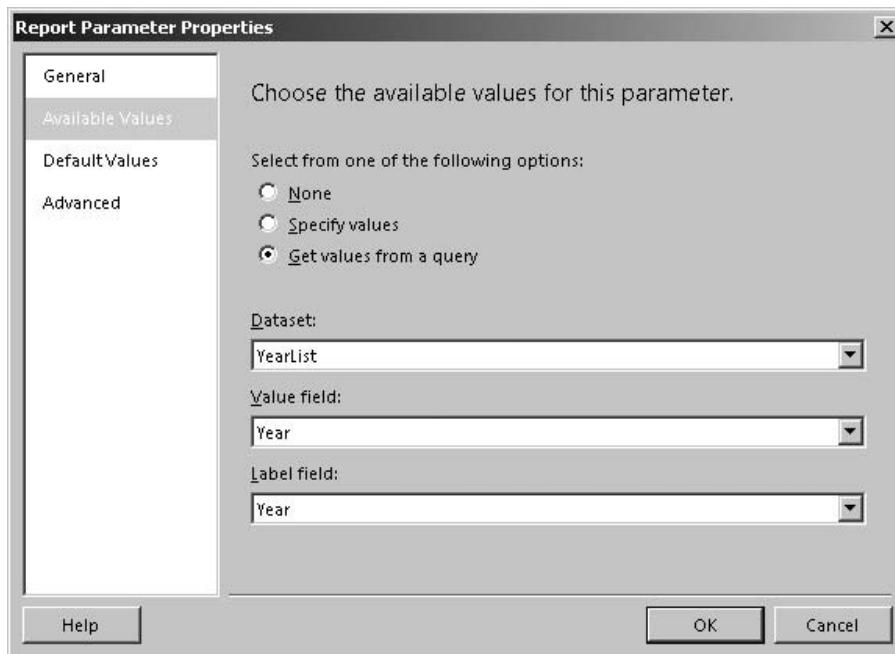

Figure 16-45 The Available Values page of the Report Parameter Properties dialog box
28. Select Year from the Label field drop-down list. This determines what is displayed in the drop-down list for the user. This page of the dialog box is shown in Figure 16-45.